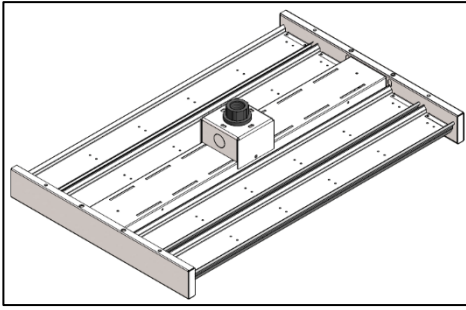

Figure 6
- C. Grip Line or Black power supply wire firmly and push the wire into the port marked with letter "B" or black circle on the connector as shown in Figure 6.
- D. Grip Neutral or White power supply wire firmly and push the wire into the port marked with letter "W" or white circle on the connector as shown in Figure 6.